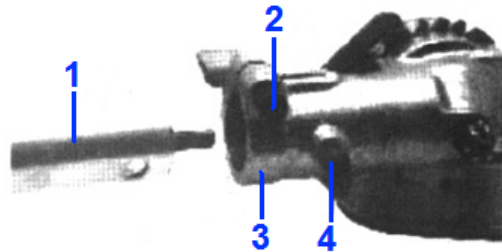

Fig.HT14
2. Lubricate the gearcase. To perform this operation, first remove the gearcase from the outer tube (See Fig.HT14)